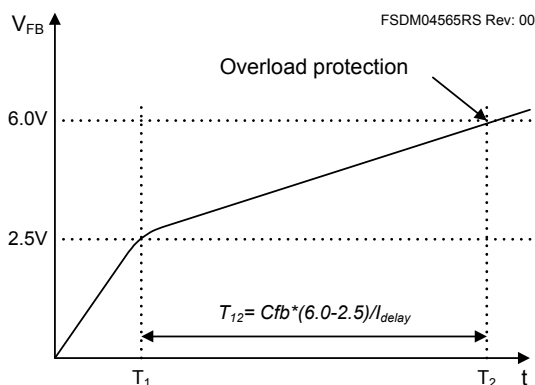

Figure 20. Overload Protection
3.1 Overload Protection (OLP): Overload is defined as the load current exceeding a pre-set level due to an unexpected event. In this situation, the protection circuit should be activated to protect the SMPS. However, even when the SMPS is in the normal operation, the overload protection circuit can be activated during the load transition. To avoid this undesired operation, the overload protection circuit is designed to be activated after a specified time to determine whether it is a transient situation or an overload situation. Because of the pulse-by-pulse current limit capability, the maximum peak current through the SenseFET is limited, and therefore the maximum input power is restricted with a given input voltage. If the output consumes beyond this maximum power, the output voltage (V_O) decreases below the set voltage. This reduces the current through the opto-coupler LED, which reduces the opto-coupler transistor current, thus increasing the feedback voltage (V_{FB}). If V_{FB} exceeds 2.5V, D1 is blocked and the $3.5\mu\text{A}$ current source starts to charge C_B slowly up to V_{CC} . In this condition, V_{FB} continues increasing until it reaches 6V, when the switching operation is terminated as shown in Figure 20. The delay time for shutdown is the time required to charge C_B from 2.5V to 6.0V with $3.5\mu\text{A}$. In general, a 10 ~ 50ms delay time is typical for most applications.